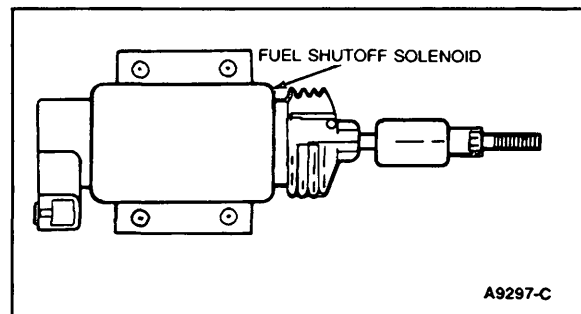

Figure 23 Fuel Shutoff Solenoid Terminals
6. Disconnect the electrical connector at the bottom of the fuel shutoff solenoid (Figure 23) and cover with tape. This must be done to shut off the flow of fuel to the engine during cranking.